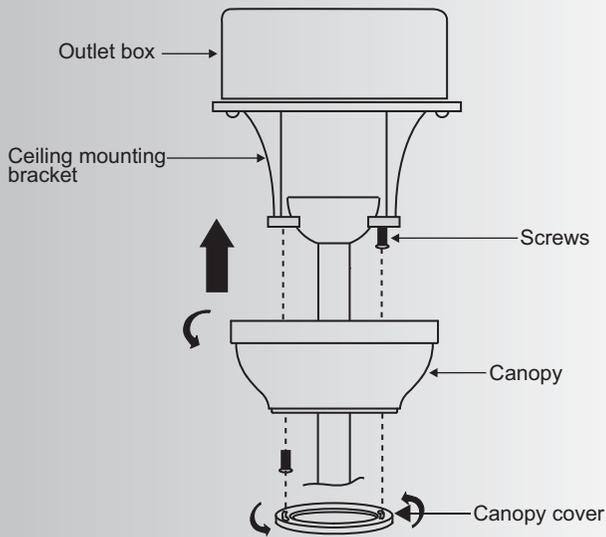

Fig. 13
Step 3. Align the remaining circular hole on the canopy with the remaining hole on the Ceiling Mounting Bracket. Insert and tighten the mounting screw. Now, attach the canopy cover to the mounting screw heads by inserting the screw heads into the bottom side of the canopy cover and rotating the cover clockwise. **NOTE:** Adjust the canopy screws as necessary until the canopy and canopy cover are snug. (Fig.13)